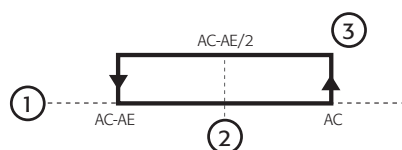

Fig. 4.1
- indicates that the limit between Ac and AE has been exceeded (deriving from the calculation:  $Ac - AE/2$ , see Fig. 4.1);
- indicates that the temperature set point Ac has been exceeded (see Fig. 4.1);